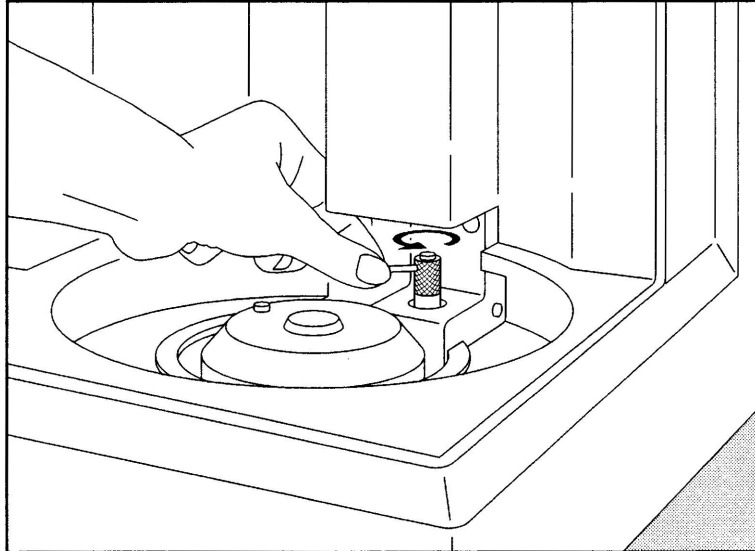

Figure 3. Turning the T-5699 Tool to remove the lower jaw seal
5. Turn the T-5699 Tool counter-clockwise until the lower jaw seal comes free of the instrument (Figure 3).